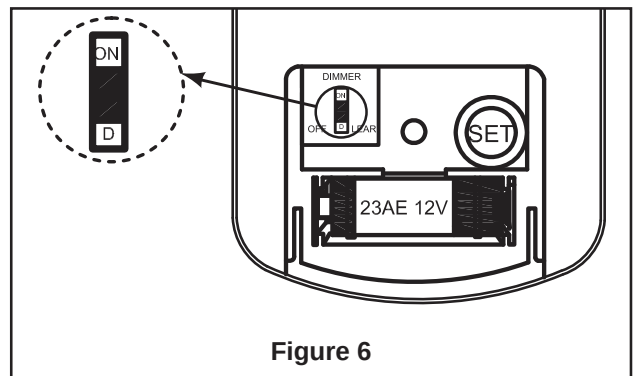

Figure 6
- For this fan, switch should be in the "ON" position, allowing for dimming of the light. (Figure 6)